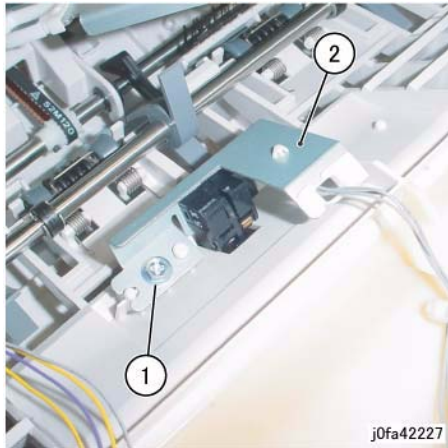

Figure 3 Removing the Compiler Exit Sensor Assembly
7. Remove the Compiler Exit Sensor Assembly (Figure 3):